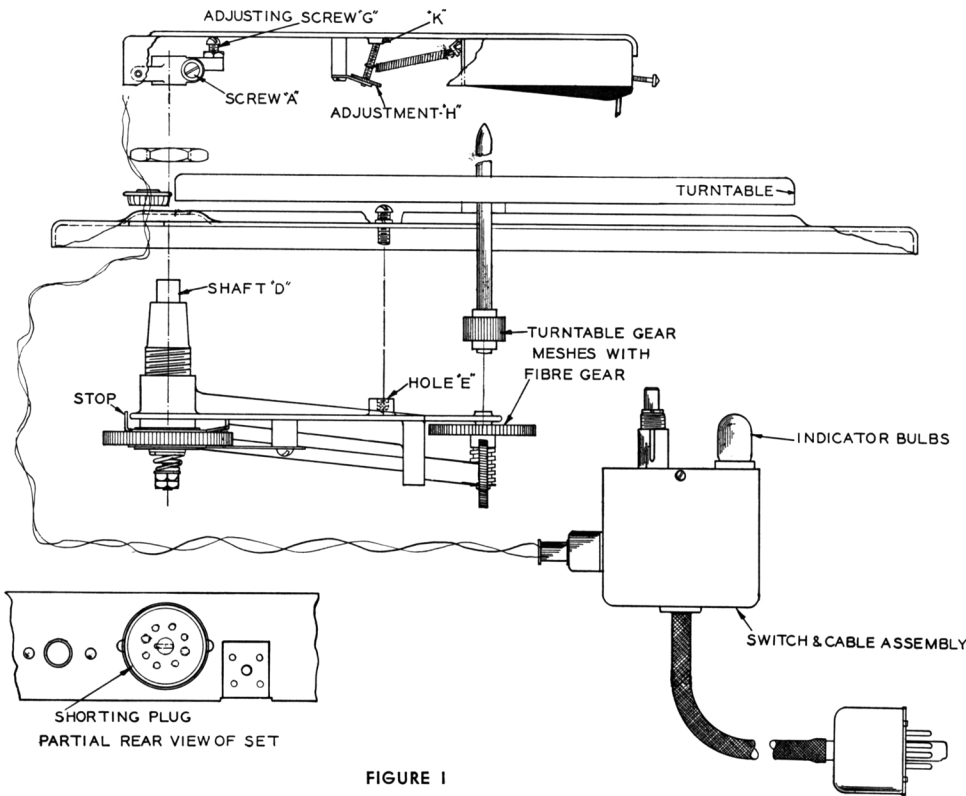

FIGURE 1
1. Loosen screw A and remove cutting arm assembly from driving mechanism, as shown in FIGURE 1.
2. Remove screw found in hole E in drive mechanism and remove large nut and washers found on shaft D (see FIGURE 1).
12. Upon observation you will find the shaft that protrudes through hole B has a stop (see FIGURE 1). This stop is so designed to limit the motion of the cutting arm towards the spindle. The reason for this limitation is to prevent the